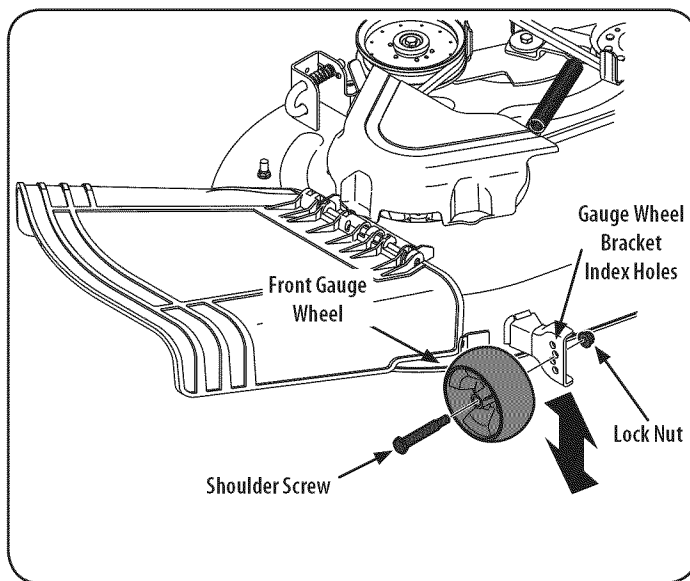

Figure 26
2. Remove the flange lock nut securing the front gauge wheel shoulder bolt to the deck. Remove the gauge wheel and shoulder bolt. Refer to Figure 26.